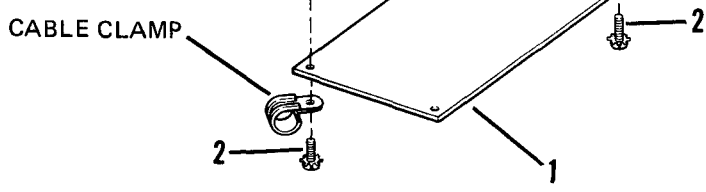

Figure 4-70. Engine Circuit Board (Model MEP-026B).
(1) Tag and disconnect wiring from engine circuit board (1, Figure 4-69) for MEP-016B and MEP-021B (60/400 Hz) sets or (1, Figure 4-70) for MEP-026B (28 VDC) set.